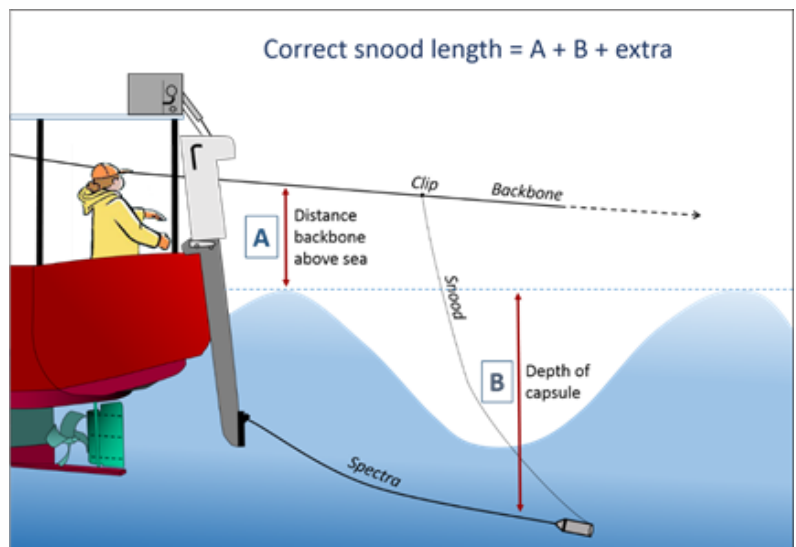

Figure 3.1. Factors to consider when calculating correct snood length for unimpeded sinking of the capsule.
- The height of the mainline above sea level at the vessel stern (Figure 3.1, A)
- Bait release depth (Figure 3.1, B)